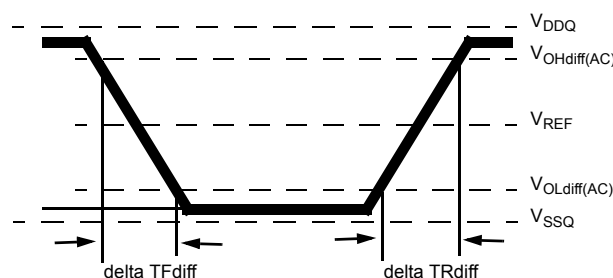

Figure 8. Differential Output Slew Rate definition
With the reference load for timing measurements, output slew rate for falling and rising edges is defined and measured between VOLdiff(AC) and VOHdiff(AC) for differential signals as shown in Table 18 and figure 8.